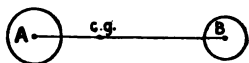
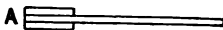

Fig. 79.
Fig. 89.
The common center of gravity of two bodies (considered as one) lies along the line connecting their centers of gravity, distant from the center of each *inversely as their masses*, that is, the product of the mass of *A* (Fig. 79) into its distance from
6. The same homogeneous stick has two pieces of equal cross section with the stick, and each five feet long, fastened to the end *A* as shown in Fig. 89. Where is now the c. g. of the three combined sticks? [Exp. 106 and Fig. 79 will help you in solving this.]